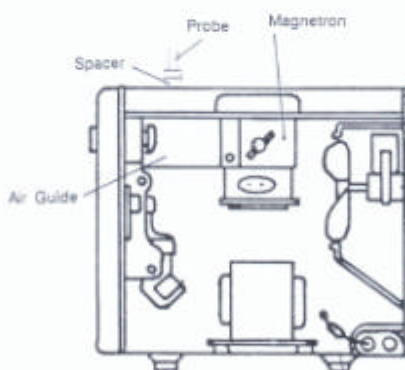

Fig. 12.2
- d) Set oven timer and with the magnetron oscillating, measure around the magnetron and the air guide. (Fig. 12.2) Reading should not exceed  $5 \text{ mW/cm}^2$ .